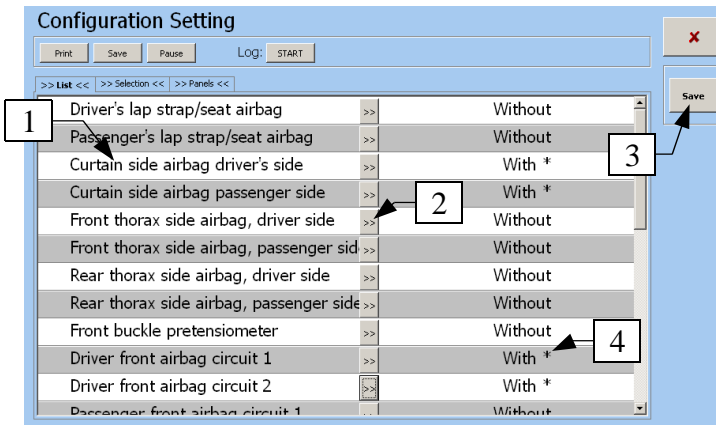

Figure 6.21
Using this function we can change configuration of the airbag system, e.g. to turn on or off individual elements of the system, for example seatbelt pretensioners, passenger airbag, head airbags and so on. An example of such configuration is on Figure 6.21. If we choose a parameter, for example (1), we can change it's value by pressing the button (2). All changed items are marked by a * (4). If you want to use these values, press the Save button (3). Now the setting is saved in the control unit. Then we recommend to turn the ignition off and on and check error memory.